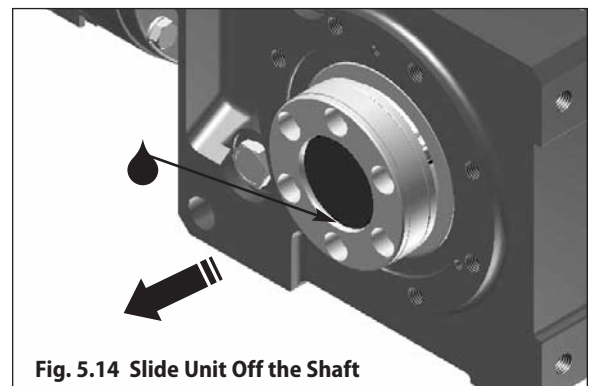

Fig. 5.14 Slide Unit Off the Shaft
Step 7 – After releasing the bushing, apply a liquid penetrant to the shaft where it contacts the bushing. Allow time for the liquid to penetrate between the bushing and the shaft, then carefully slide the unit off of the shaft. (see Fig 5.14). **Note: If the bushing releases, but the unit cannot be removed from the shaft, apply a puller to the bushing to push the shaft free.**